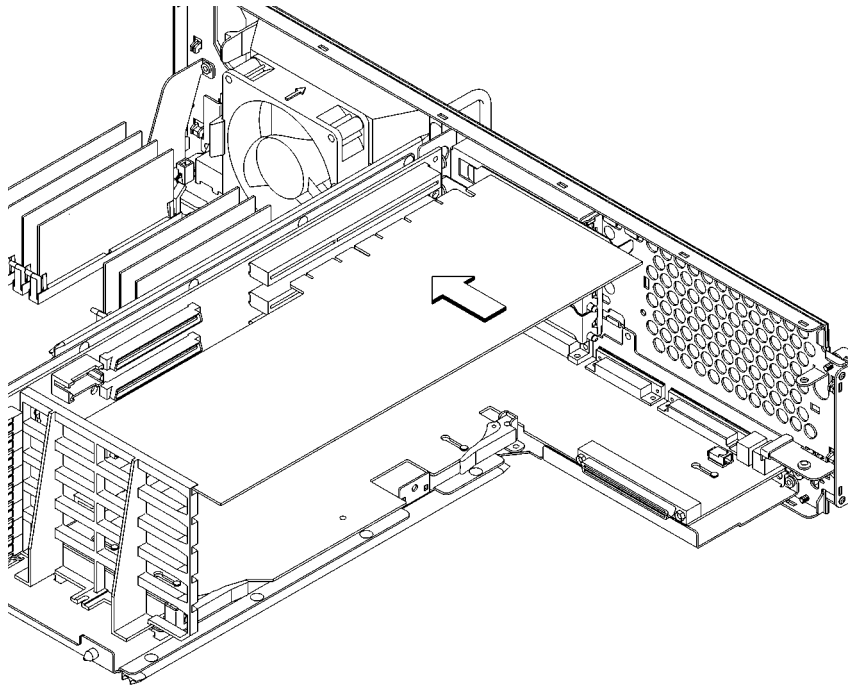

Figure 53 **Installing an Option Board**
- 7 Slide the board into the slot, as shown in Figure 53. Make sure that the hole in the board's handle aligns with the pin on the back panel.